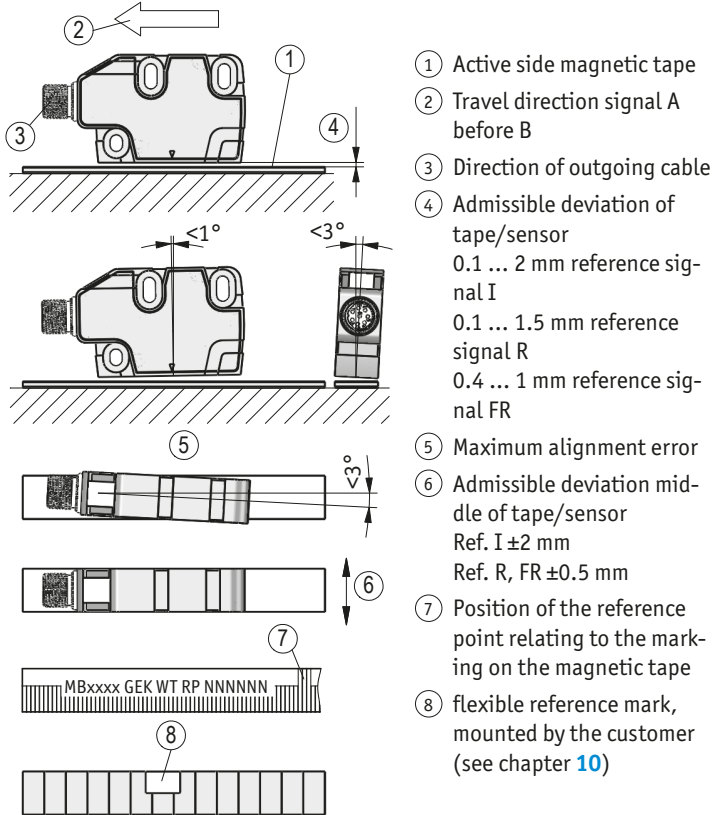

Fig. 6: Definition of the counting direction with magnetic tape and assemblage sensor / magnetic tape, gap measure, tolerances
► Take care that the magnetic sensor is aligned correctly in order to ensure optimum sensing (see Fig. 6).
- The distance tolerances were not observed over the whole measuring length (see Fig. 6 and Fig. 8).
- The magnetic sensor has been mounted with the active side turned away from the band (see Fig. 6 and Fig. 8).
- Magnetic sensor has not been aligned according to Fig. 6 and Fig. 8.